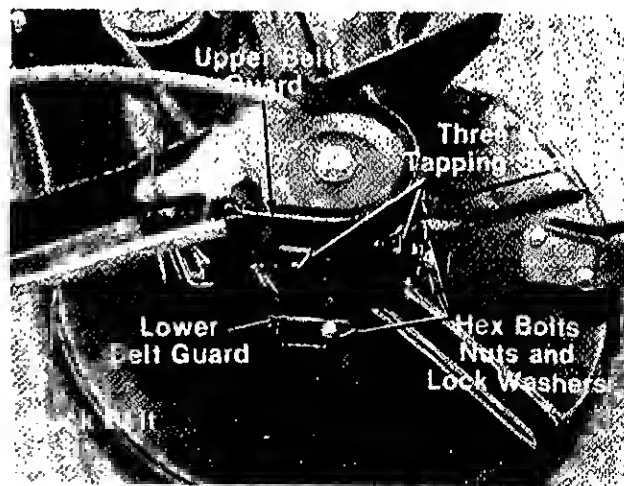

FIGURE 35.
1. Remove three hex self-tap screws holding the upper belt guard to the lower belt guard. See figure 35.
1. Remove the deck belt and upper belt guard. See figure 35.
2. Remove the lower belt guard by removing three hex bolts, lock washers and hex nuts. See figure 35.